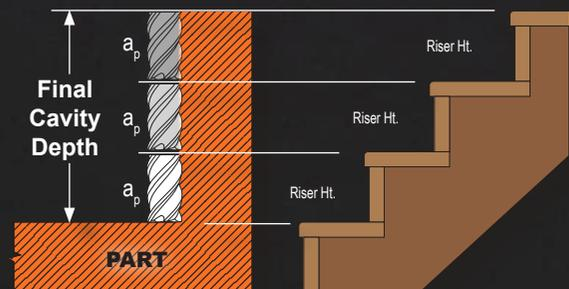

Fig. 3 - An example of reduced neck (RN) step down milling
With HEM roughing, we can safely use a length of cut (LOC) up to four times the diameter ($4 \times D$). The same tool works for roughing and finishing without any issues. However, if a dynamically driven tool path (High Efficiency Machining, aka HEM) is not available, we recommend using a reduced neck tool (RN) in conjunction with the most precise tool holder, as shown in figure 3. Cut to an axial depth of 1.5 times the tool diameter ($1.5 \times D$) while maintaining a considerable radial depth of cut (a_e). This will guarantee maximum efficiency by controlling the metal removal rate (MRR) and simultaneously maximizing your productivity.